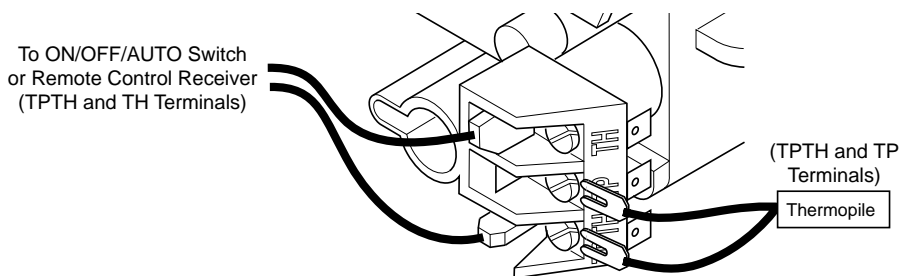

Figure 1 - Thermopile and Switch Connections to Valve
1. Insure screws that connect thermopile to valve are tight on gas valve (see Figure 1).
2. Check to see that wires from ON/OFF/AUTO switch or remote receiver are connected properly (see Figure 1).
3. Turn switch to ON position. The valve should open and main burner should light. If main burner does not light, you will need to replace switch. If main burner lights, cycle switch OFF and ON at least twice, allowing 20 to 30 seconds between cycles. With unit OFF, remove battery and reconnect thermopile (see Figure 1). The unit should function properly.